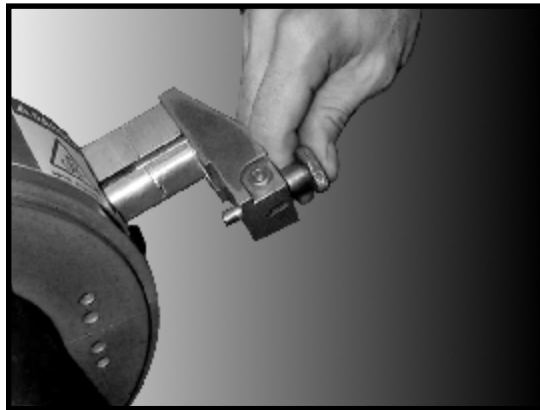

FIGURE 10
31. Engage the trip pin by pushing the knob downward (Figure 10).